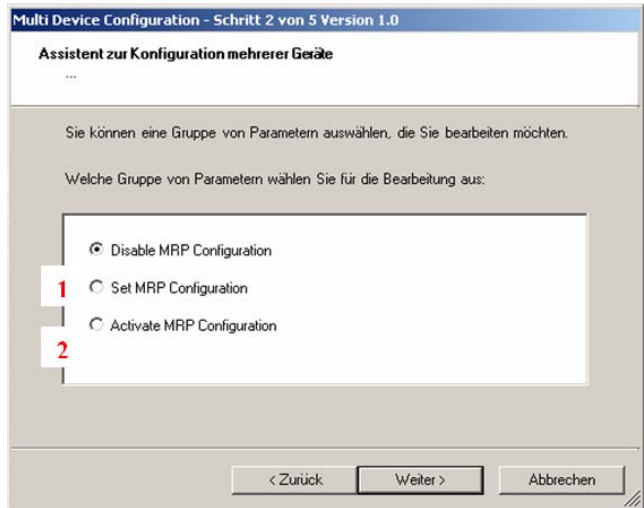

Figure 4-21 Activating redundancy
- Step 2: Select the “Set MRP Configuration” option (see Figure 4-21/item 1).